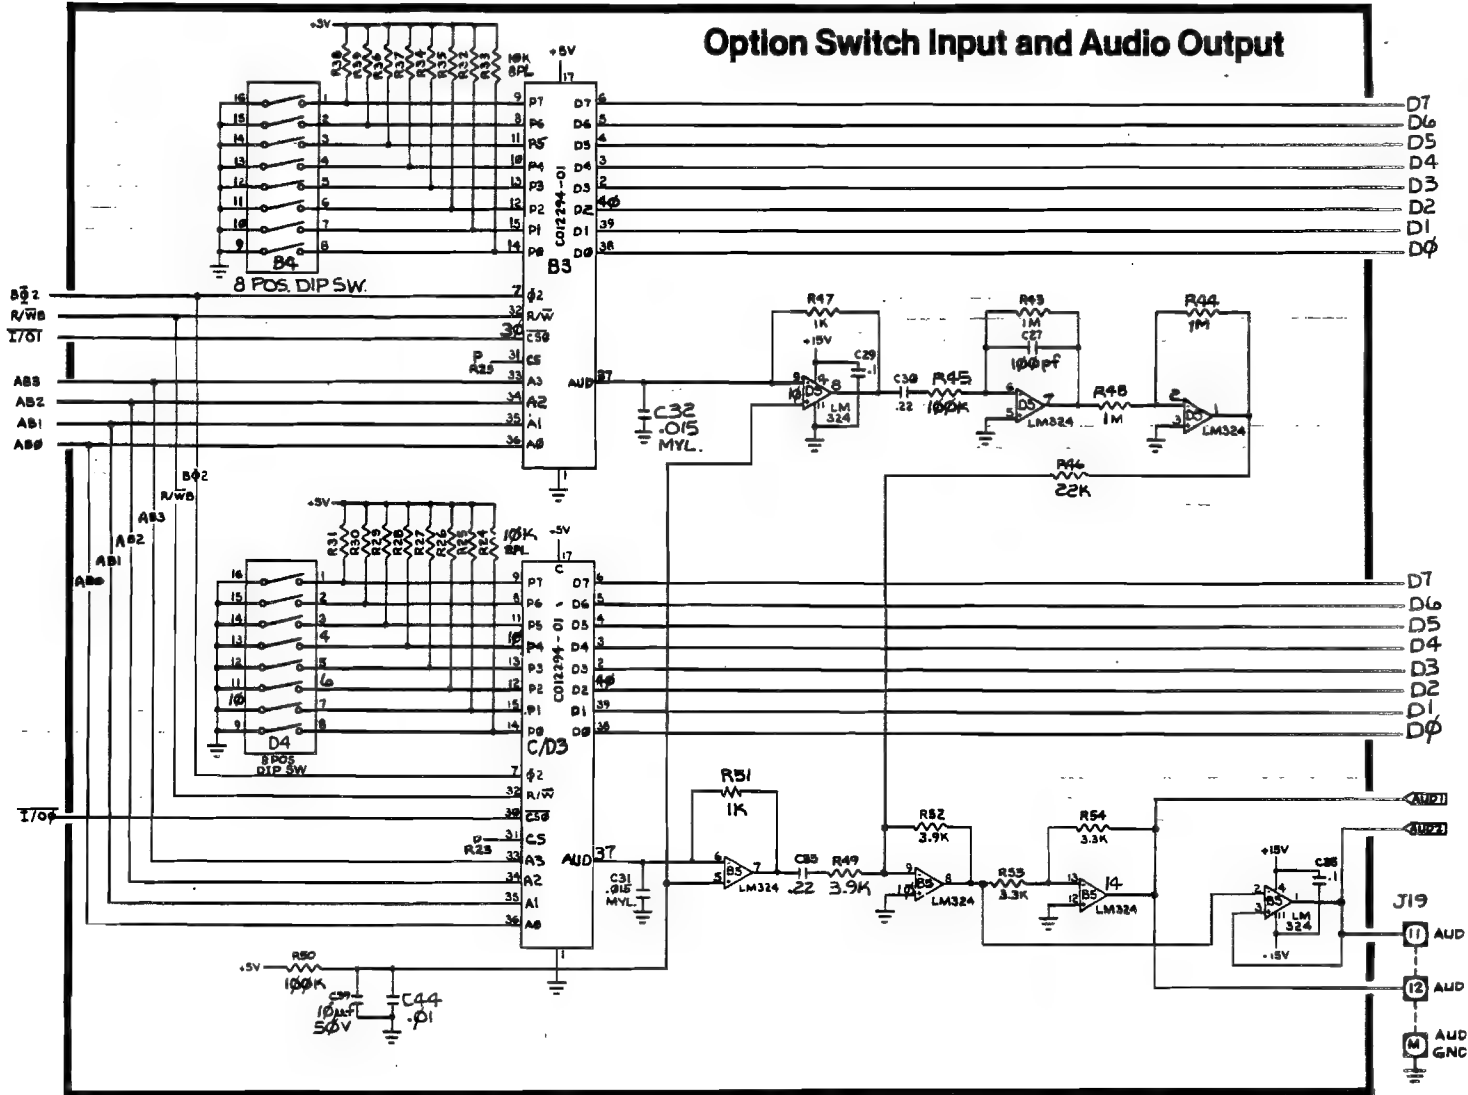

Figure 7 Sheet 5A (Gravitar PCB Schematic Diagram) Changes
- Sheet 5A, Gravitar PCB Schematic Diagram: Replace the Option Switch Input, Audio Output, and Coin Door and Control Panel Input schematics with Figures 7 and 7A.